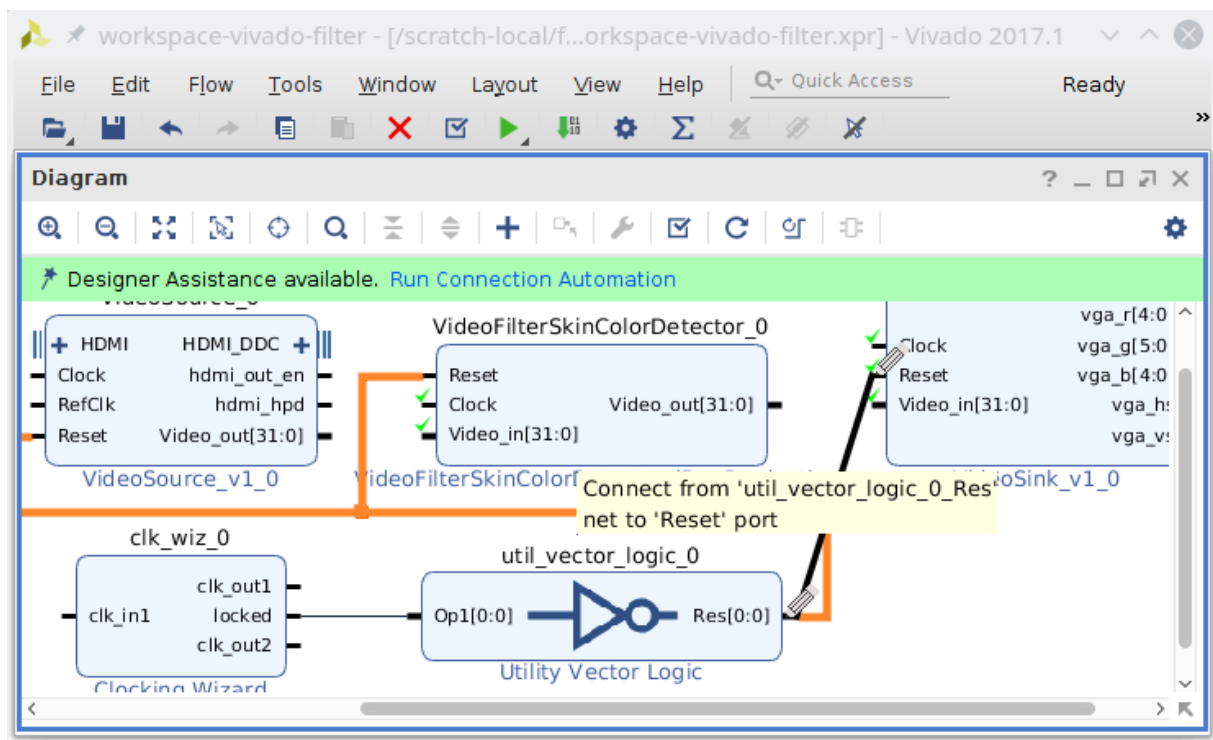

Figure 33: Connect the reset derived by inverting the locked output port of the “Clocking Wizard” to the Reset input ports of the IPBs
- q) The locked output port of the “Clocking Wizard” will be low until the output clocks on clk_out1 and clk_out2 become stable whereas it will turn high. Thus, we have to invert the locked signal to derive an active high reset signal. Hence, connect the reset derived by inverting the locked output port of the “Clocking Wizard” to the Reset input ports of the IPBs as shown in Figure 33. Connections can be made by clicking and dragging an output port of an IPB to an input port of an IPB. Then, connect clk_out1 to the RefClk input port of the VideoSource IPB as well as clk_out2 to the Clock input ports of the other IPBs.